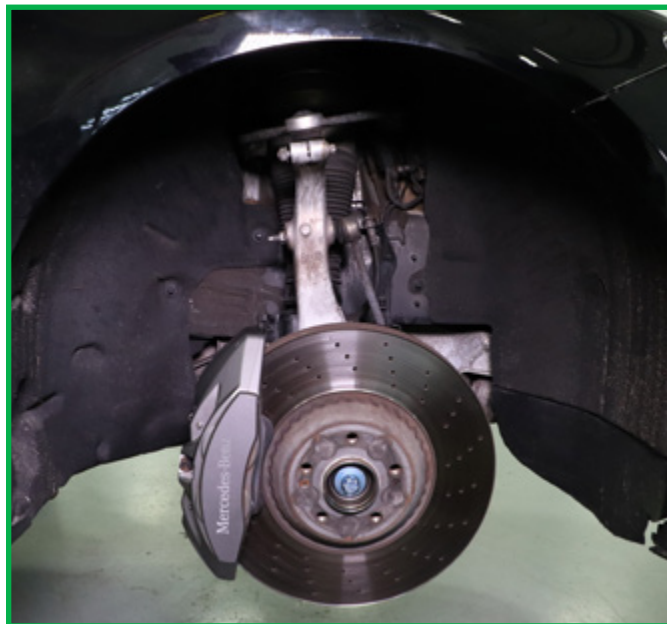

FIGURE 5
5. Remove front right wheel. (Figure 5)